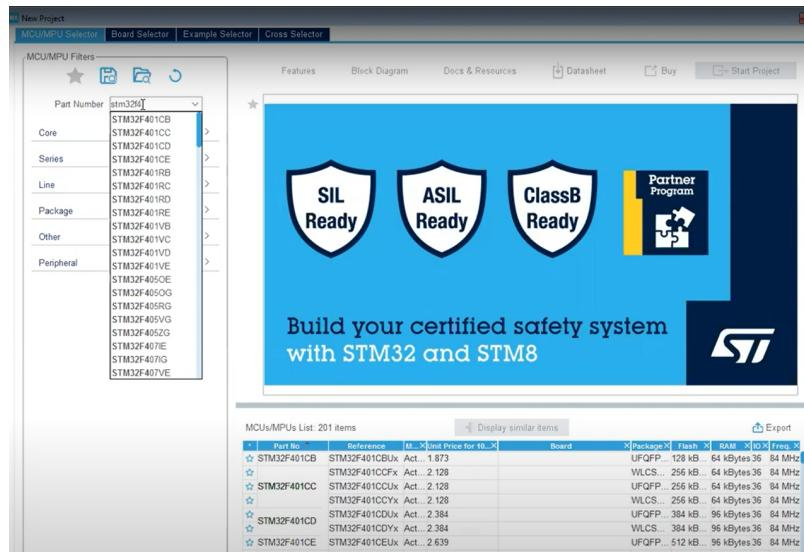

Figure 7
5. The relevant microcontroller is found and selected from the Part Number as in Figure 7.